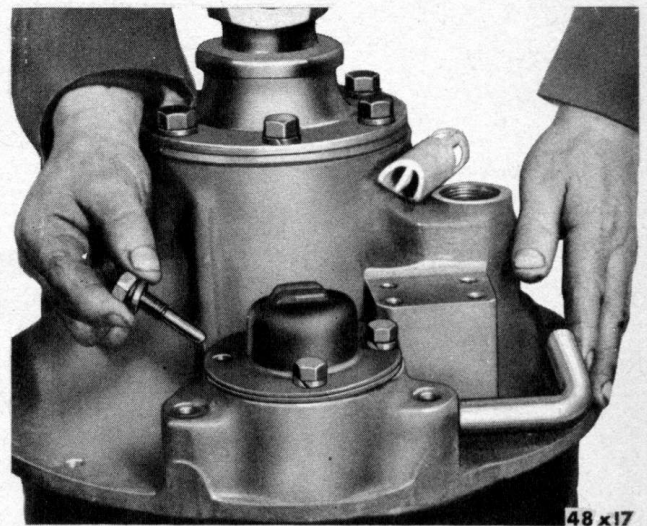

Fig. 61—Removing Shift Fork Cover
- (2) Remove cap screws in shift fork cover, noting special screw in off-center hole. See Figure 61. Lift off shift fork cover and gasket.